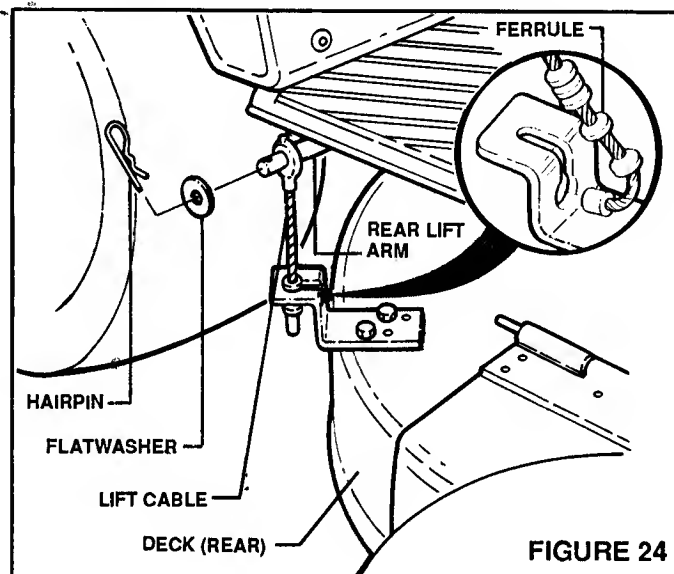

FIGURE 24
3. Remove hairpins and washers from REAR LIFT ARM CABLES. See Figure 24.